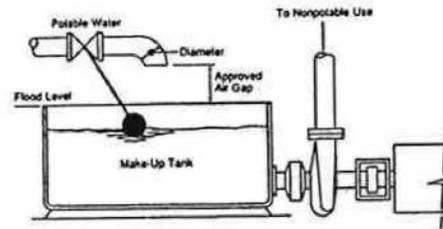

FIGURE 5 Air Gap
An air gap (AG) physically separates potable water from contaminated water with an air space (**Figure 5**). It is created when the inlet pipe stops above the rim of the container being filled. The distance between the supply pipe and the overflow rim of the receiving vessel should be two times the diameter of the supply pipe, but never less than one inch. A properly constructed air gap is the safest way to prevent backflow. An air gap protects against both back-siphonage and back pressure. It is appropriate for low and high hazard applications. An air gap is the only protection allowed when water lines must come in contact with sewer or storm sewer lines.